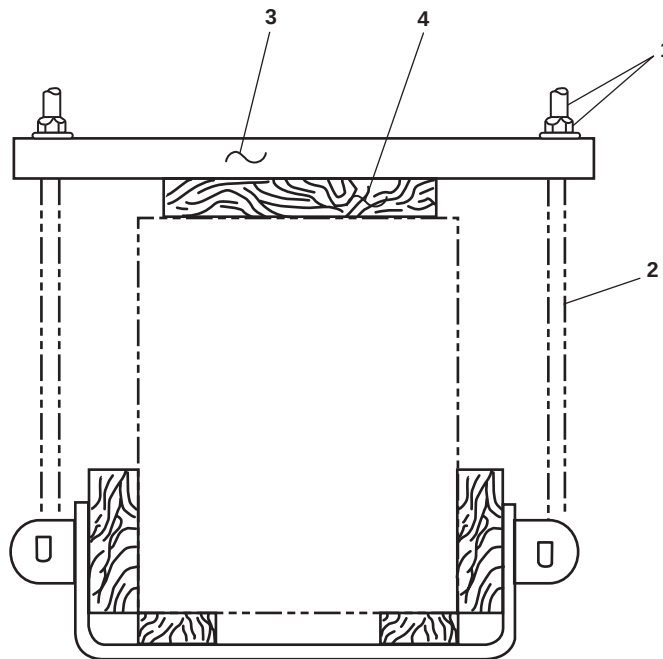

Figure 1. Battery Replacement
1. Remove the hex nut and flat washer (figure 1, item 1) from the J-bolt (figure 1, item 2).
2. Remove the battery hold down (figure 1, item 3).
3. Remove the wood spacer bar (figure 1, item 4).